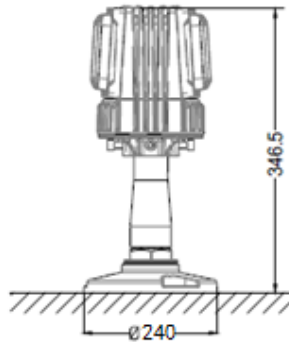

Figure 3-2
- Directly mounted with flange (Figure 3-2).